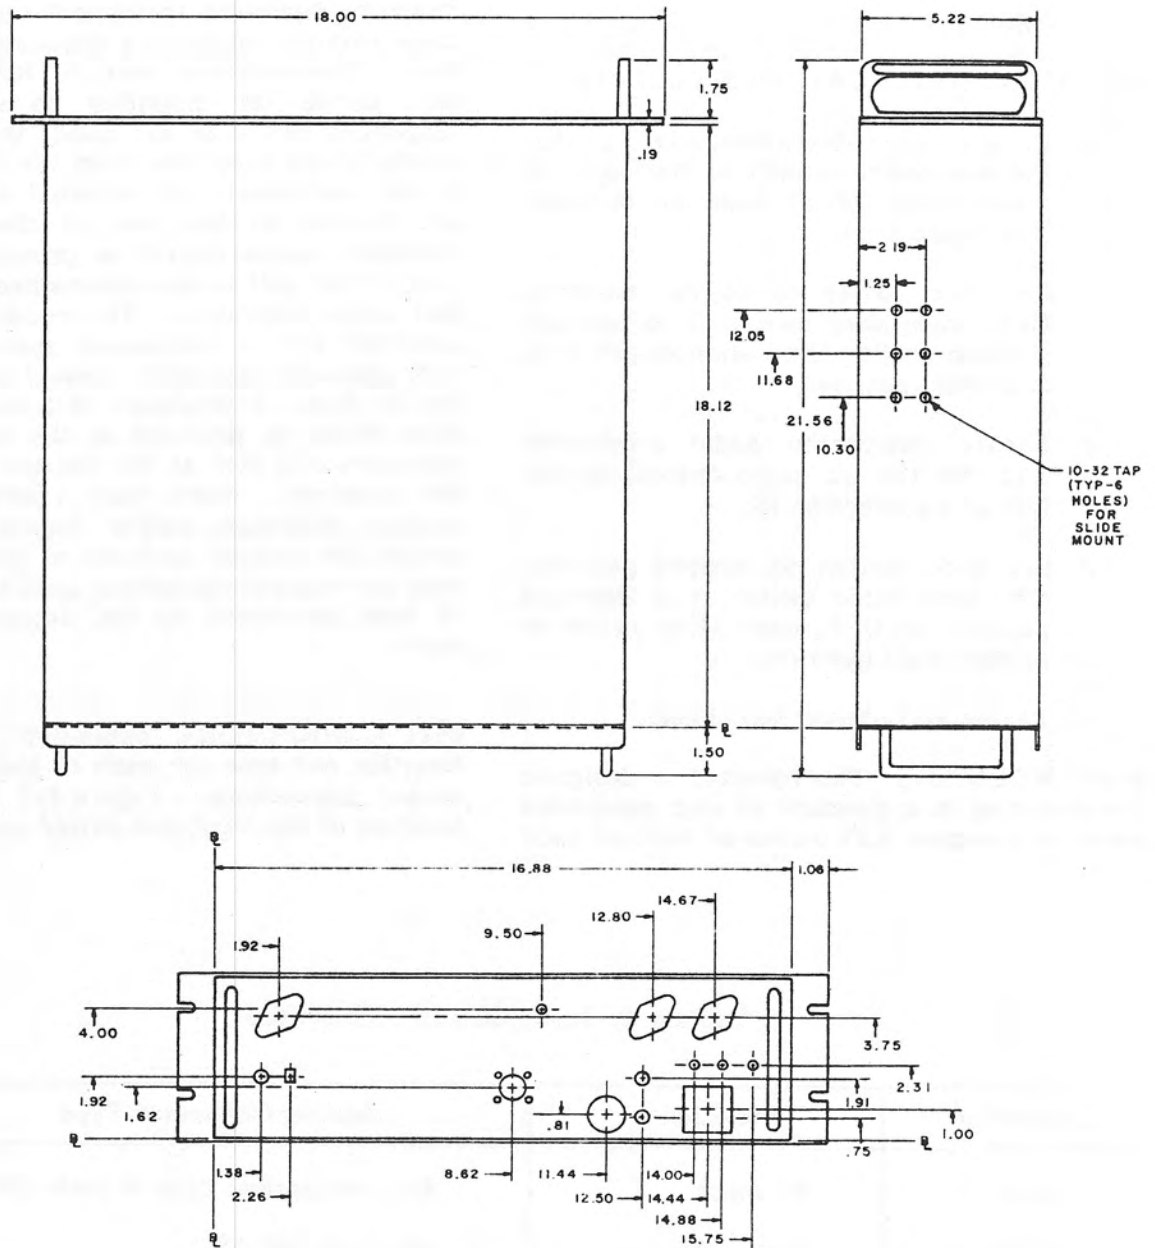
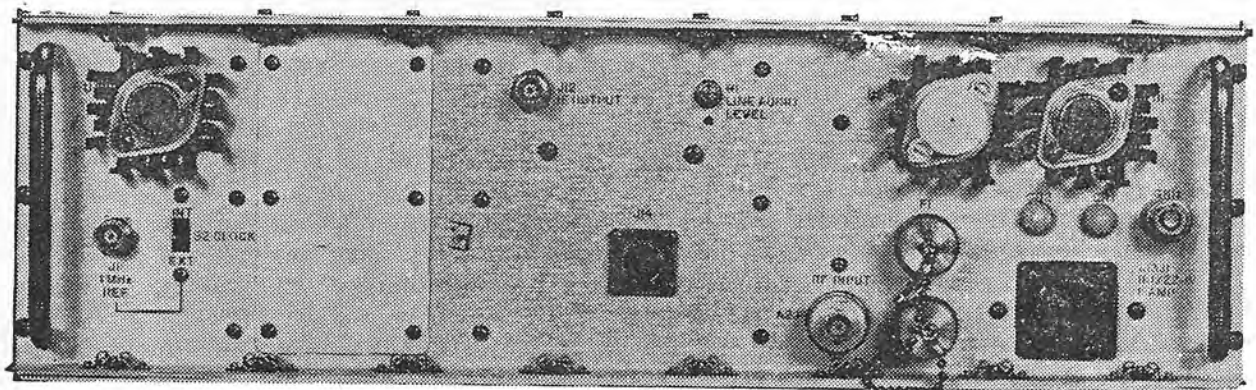

Figure 8-1. AN/URR-74(V)2 Radio Receiving Set, Critical Dimensions
Figure 8-2. Radio Receiving Set, Rear Panel
8-2. SITE INFORMATION. The receiver is designed for installation in a 19 inch rack in accordance with MIL-STD-189, but can be installed in any standard electronic equipment rack that provides the necessary cable connections and ventilation requirements. Figure 8-1 gives the critical dimensions of the unit and Figure 8-2 identifies all rear panel connectors.
8-7. INSTALLATION PROCEDURES. No assembly of the receiver is necessary as it is shipped as a complete unit. Figure 8-1 gives the critical dimensions of the unit. Internal selections for the ac line voltage and both the line audio and isb audio output attenuators should be made before mounting the receiver in the rack. The receiver may be operated from either 115 Vac or 230 Vac, $\pm 15\%$; line voltage. Each of the attenuators may be switched on or off, as required. Refer to table 1-1 and paragraph 8-11d(1) and 8-11d(3), for the line audio and isb audio output characteristics with the attenuators on or off.
8-11 CONNECTORS. Table 8-2 lists the function and type for each of the input and output connectors. Figure 8-2 shows the location of the input and output connectors.
8-12. REFERENCE FREQUENCY SELECTION. The receiver may be operated with an internally or externally supplied reference frequency. To use the internal reference, set the S2 CLOCK switch on the rear panel (see figure 8-2) to INT. To use the external reference, set this switch to EXT and connect the external 1 MHz reference source to J11. Refer to paragraph 8-11c for external reference requirements.